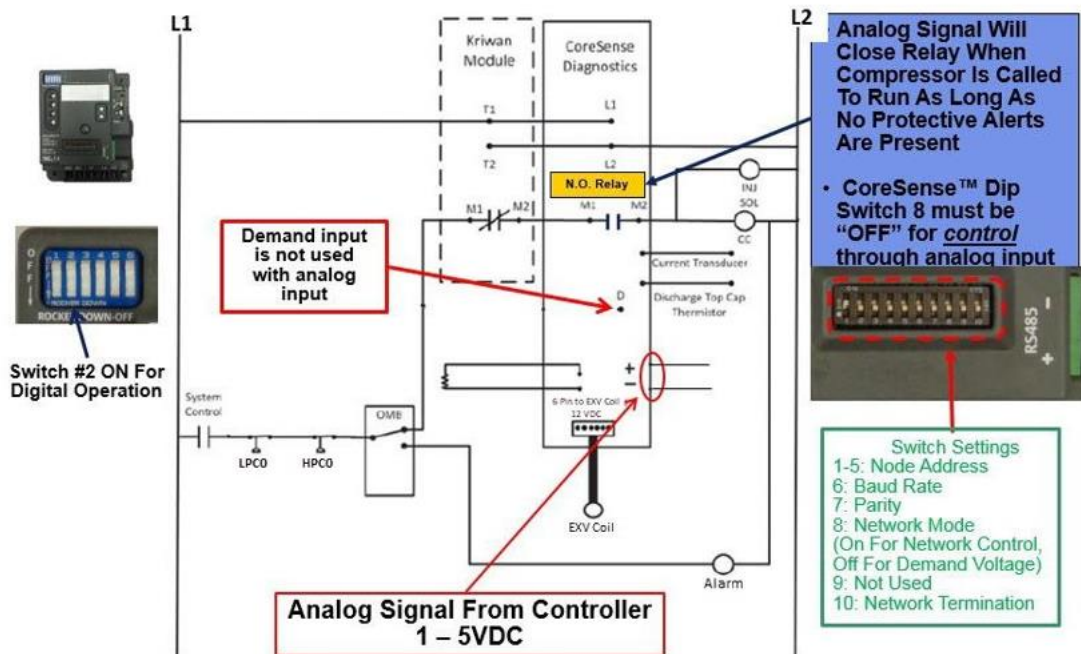

Figure 12 - Digital Compressors Using Analog Input for Modulation
2. Digital Compressors using Analog Input for the modulation (Figure 12)
**Figure 12** shows the wiring for Digital Compressors using analog input for the modulation. The network dip switch #8 must be in the “off” position for the digital control when using a 1-5V analog input. A demand wire is not required to be run to the “d” terminal. The 1- 5V analog signal for the digital will close the module relay from normally open to closed when the compressor is called to run.